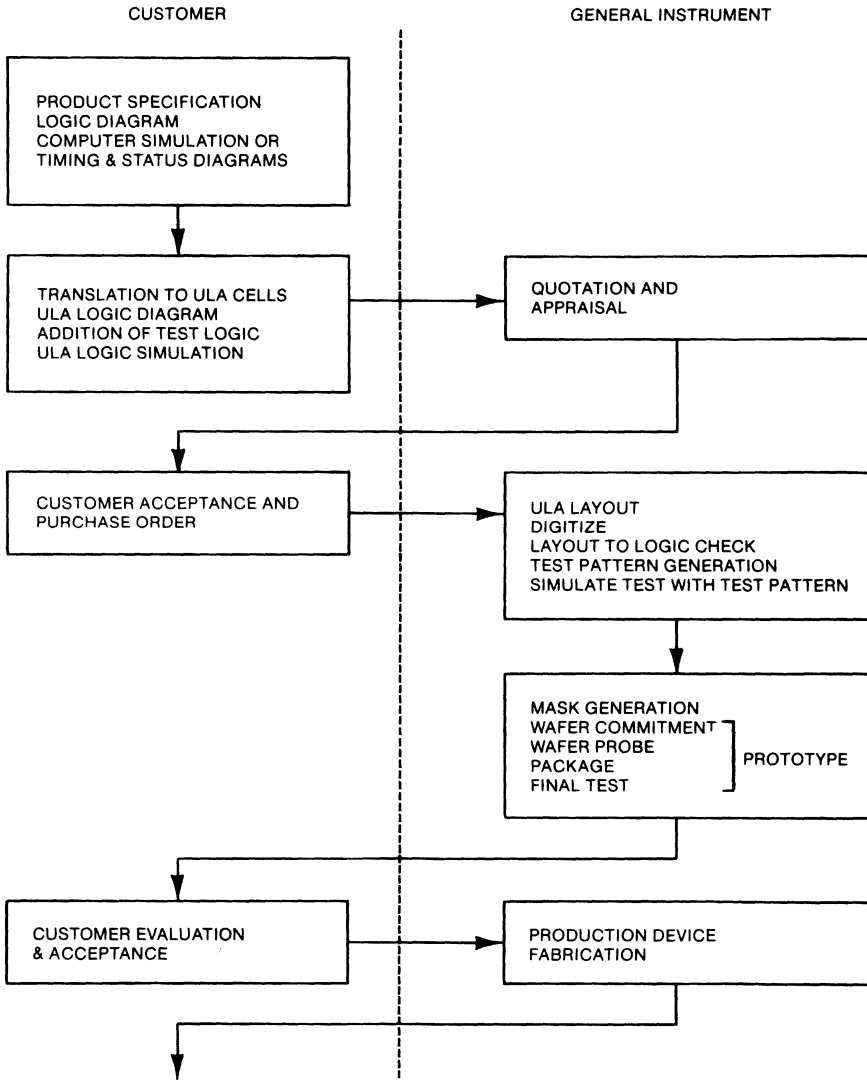

Fig. 9 DESIGN INTERFACE
- II) Customer designs in ULA format as shown in Figure 9.